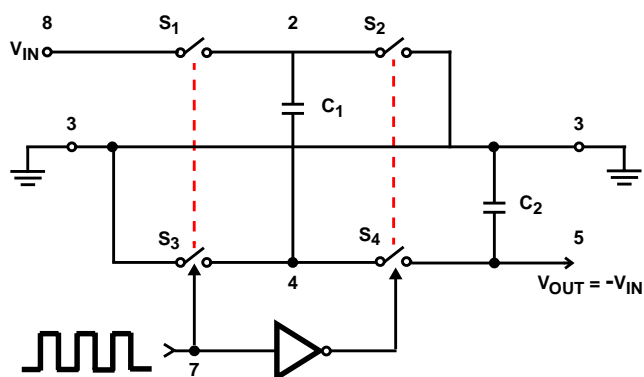
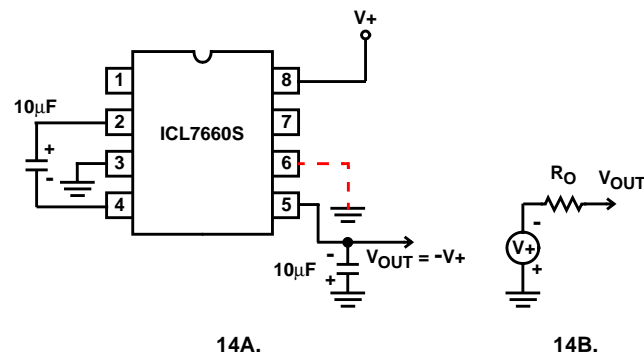
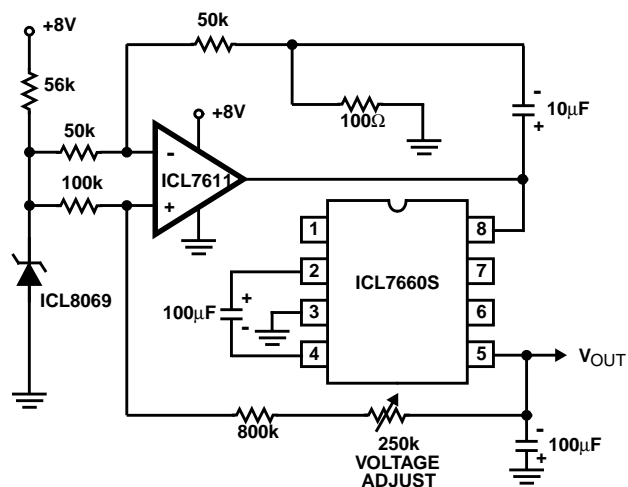
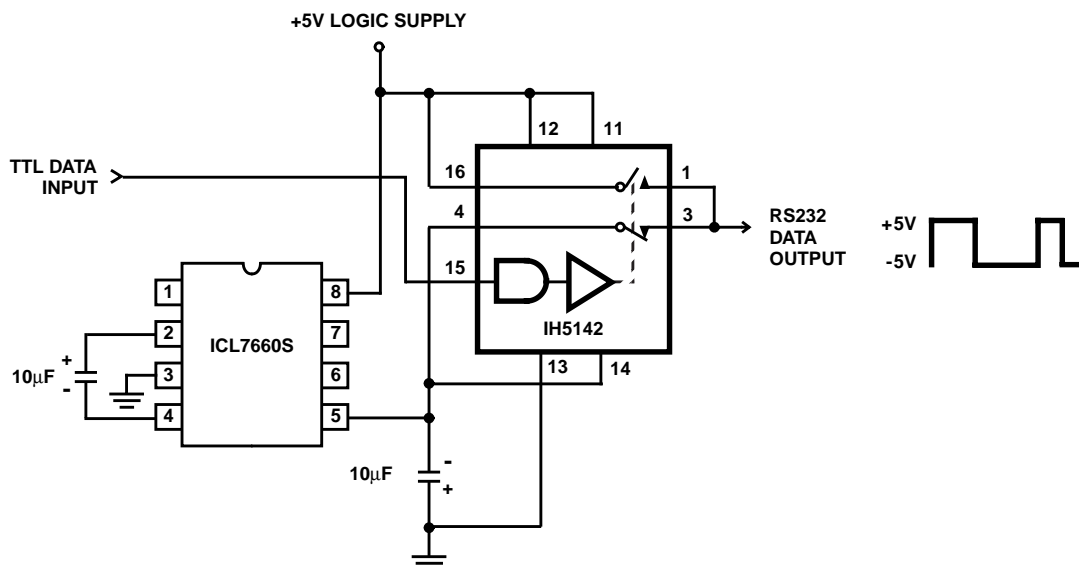

FIGURE 13. IDEALIZED NEGATIVE VOLTAGE CONVERTER
FIGURE 14. SIMPLE NEGATIVE CONVERTER AND ITS OUTPUT EQUIVALENT
FIGURE 20. REGULATING THE OUTPUT VOLTAGE
FIGURE 21. RS232 LEVELS FROM A SINGLE 5V SUPPLY
The ICL7660S contains all the necessary circuitry to complete a negative voltage converter, with the exception of 2 external capacitors which may be inexpensive 10μF polarized electrolytic types. The mode of operation of the device may be best understood by considering Figure 13, which shows an idealized negative voltage converter.
In the ICL7660S, the 4 switches of Figure 13 are MOS power switches; S_1 is a P-Channel devices and S_2 , S_3 and S_4 are N-Channel devices. The main difficulty with this approach is that in integrating the switches, the substrates of S_3 and S_4
where V_1 and V_2 are the voltages on C_1 during the pump and transfer cycles. If the impedances of C_1 and C_2 are relatively high at the pump frequency (refer to Figure 13) compared to the value of R_L , there will be substantial difference in the voltages V_1 and V_2 . Therefore it is not only desirable to make C_2 as large as possible to eliminate output voltage ripple, but also to employ a correspondingly large value for C_1 in order to achieve maximum efficiency of operation.
The majority of applications will undoubtedly utilize the ICL7660S for generation of negative supply voltages. Figure 14 shows typical connections to provide a negative supply where a positive supply of +1.5V to +12V is available. Keep in mind that pin 6 (LV) is tied to the supply negative (GND) for supply voltage below 3.5V.
The output characteristics of the circuit in Figure 14 can be approximated by an ideal voltage source in series with a resistance as shown in Figure 14B. The voltage source has a value of $-(V^+)$. The output impedance (R_O) is a function of the ON resistance of the internal MOS switches (shown in Figure 13), the switching frequency, the value of C_1 and C_2 , and the ESR (equivalent series resistance) of C_1 and C_2 . A good first order approximation for R_O is:
The ICL7660S may be employed to achieve positive voltage doubling using the circuit shown in Figure 20. In this application, the pump inverter switches of the ICL7660S are used to charge C_1 to a voltage level of $V+ - V_F$ (where $V+$ is the supply voltage and V_F is the forward voltage on C_1 plus the supply voltage ($V+$) is applied through diode D_2 to capacitor C_2 . The voltage thus created on C_2 becomes $(2V+) - (2V_F)$ or twice the supply voltage minus the combined forward voltage drops of diodes D_1 and D_2 .
Figure 21 combines the functions shown in Figure 14 and Figure 20 to provide negative voltage conversion and positive voltage doubling simultaneously. This approach would be, for example, suitable for generating +9V and -5V from an existing +5V supply. In this instance capacitors C_1 and C_3 perform the pump and reservoir functions respectively for the generation of the negative voltage, while capacitors C_2 and C_4 are pump and reservoir respectively for the doubled positive voltage. There is a penalty in this configuration which combines both functions, however, in that the source impedances of the generated supplies will be somewhat higher due to the finite impedance of the common charge pump driver at pin 2 of the device.